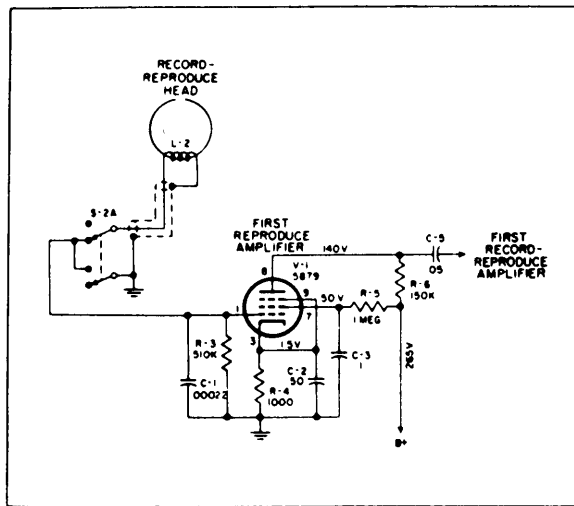

Figure 19. Reproduce Head and First Reproduce Amplifier - Schematic Diagram
5.8.3.1 REPRODUCE HEAD AND FIRST REPRODUCE AMPLIFIER (See figure 19.)